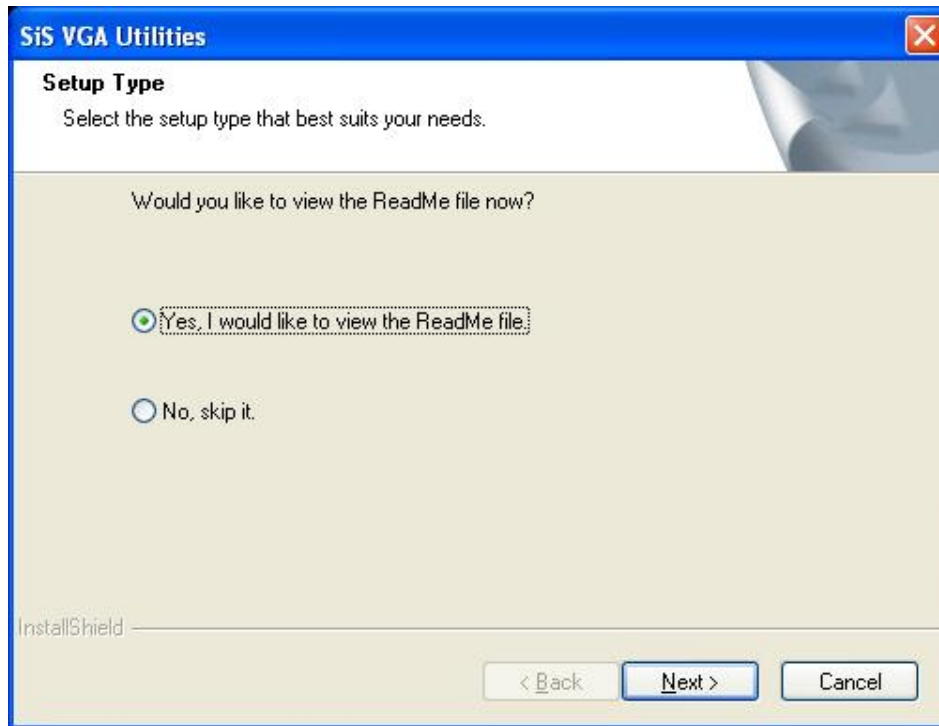

Figure 6-10: Read ReadMe File
Step 3: Double-click the **3.76logo** sub-folder to view the folder contents on the CD for the VGA driver (**Figure 6-10**).
(see **Figure 6-10**)